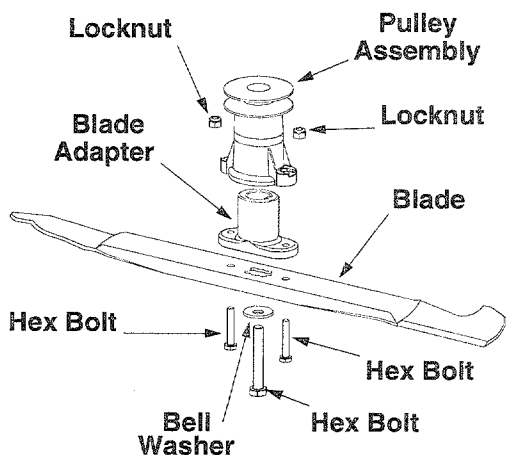

Figure 20
1. Install the blade adapter in the pulley with the "star" away from the pulley. Refer to Figure 20.